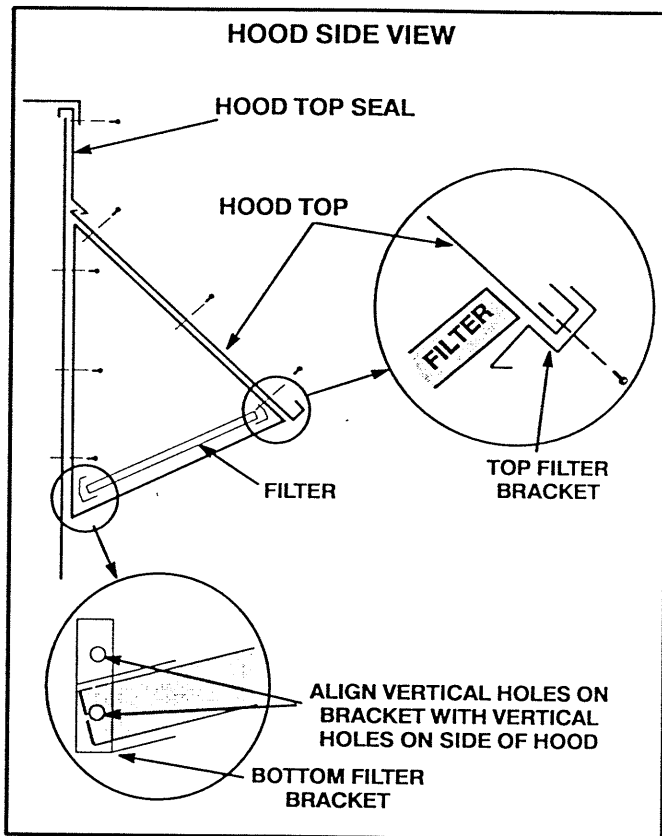

FIGURE 8
- 3- Align two holes on intake hood side panel with two holes on bottom filter bracket. See figure 8. Secure both sides of bottom filter bracket to hood sides with sheet metal screws.
- 6- Install top filter bracket as shown in figure 8. Secure with screws provided.